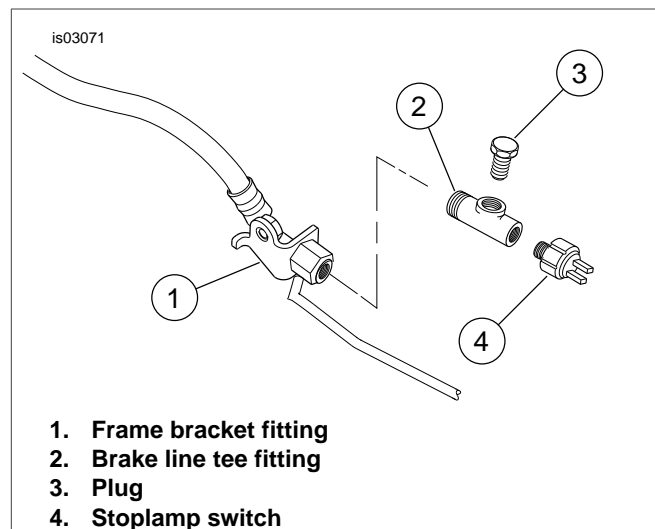

Figure 14. Modifying Brake Line Connection
- See Figure 14. Carefully remove stop lamp switch from existing fitting at frame bracket. Clean threads.